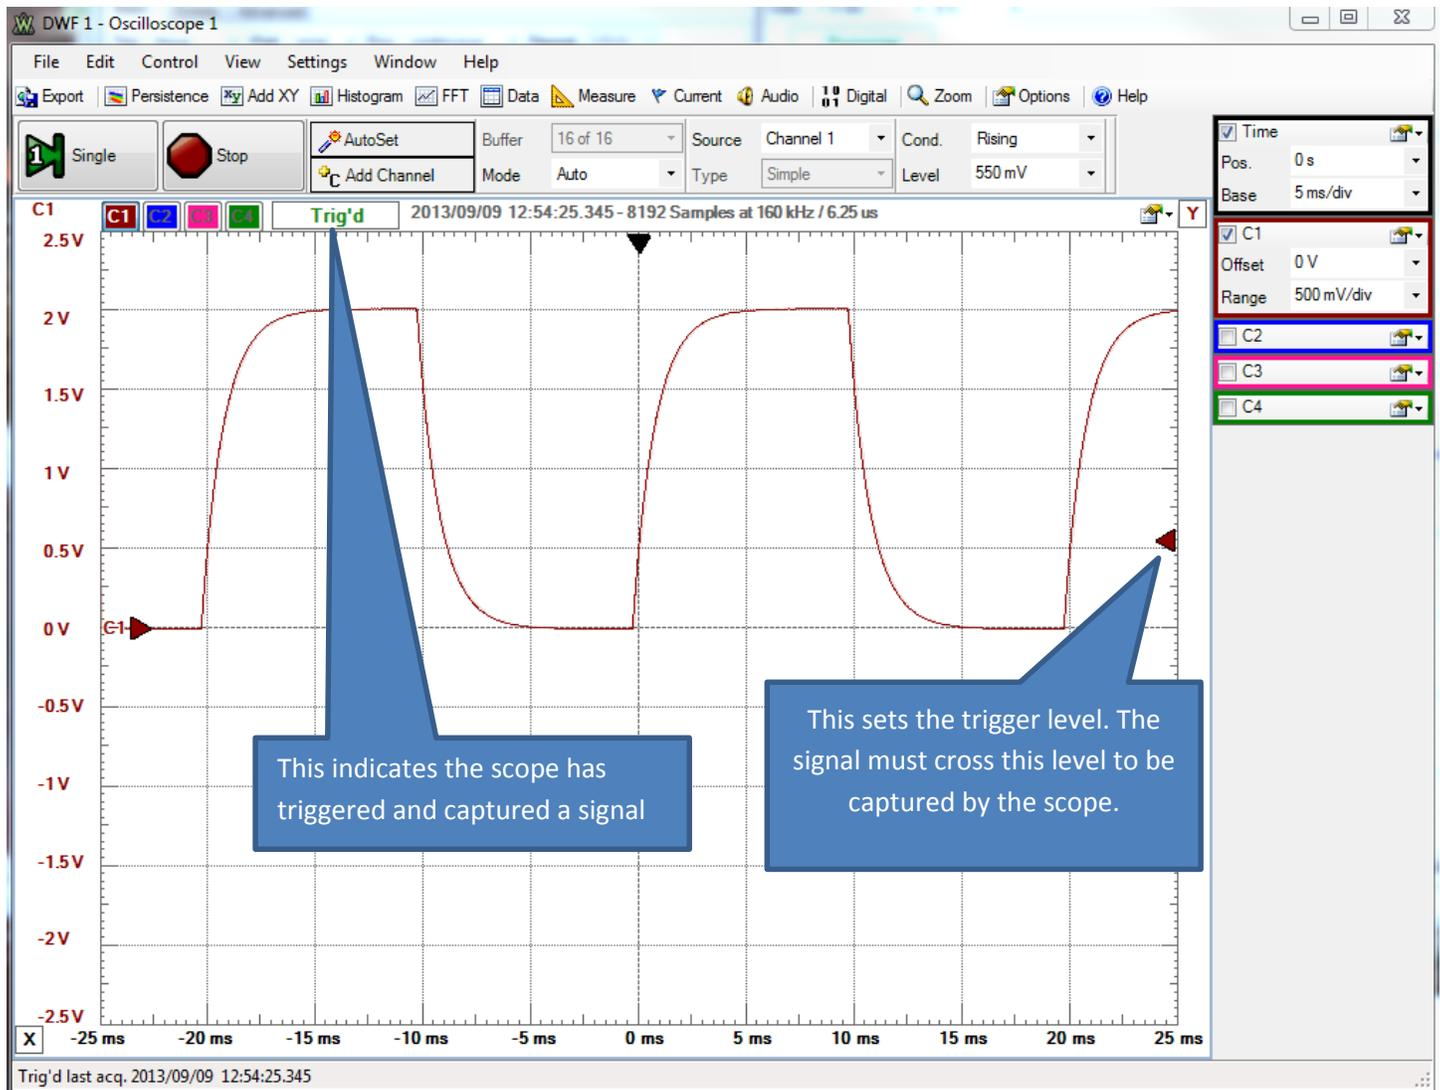

Figure 4. Oscilloscope screen for channel 1 for Part A.
5) Start the **Oscilloscope (Scope)**. Turn off all of the channels except C1. Set the Time Base to 5 ms/div and for C1 set the scale to 500 mV/div with and offset of 0 volts. If you select the pull down menu at the right of the C1 channel box, you can change some of the parameters. I have changed the color for the signal on mine. If you start the scope and the waveform generator is on, your oscilloscope channel should look more or less like that in Figure 4. However, it may not and that will be explained shortly.
There are two important things to check on this figure, or whenever you use a scope. The first is to make sure you have “triggered”. The scope captures a signal once the signal has crossed the trigger level or threshold. If you do not see any signal and the scope has not triggered, change the trigger level by moving the trigger level (see Figure 4.)